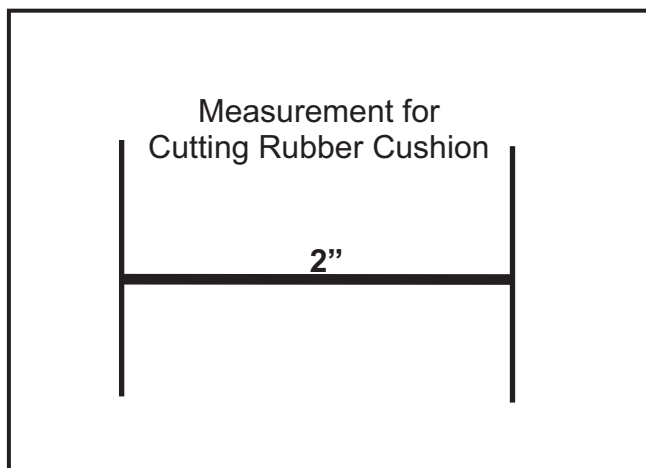

Fig. 3
4. Using a sharp pair of scissors, cut 1" X 18" cushion material into 2" pieces. (Use Fig. 3 to measure)